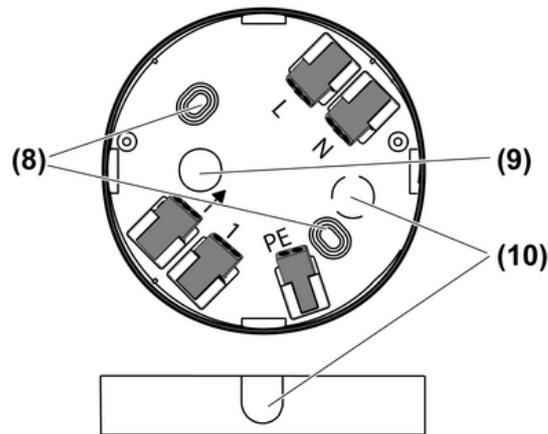

Figure 5: Connection box
(8) Fastening holes
(9) Cable entry, surface-mounted
(10) Thin points for optional cable entries
- For an additional flush-mounted cable entry or surface-mounted cable entry, break out the appropriate thin point (10) (Figure 5).
- Fasten connection both (4) with enclosed anchor/screw set through holes (8) (Figure 5).